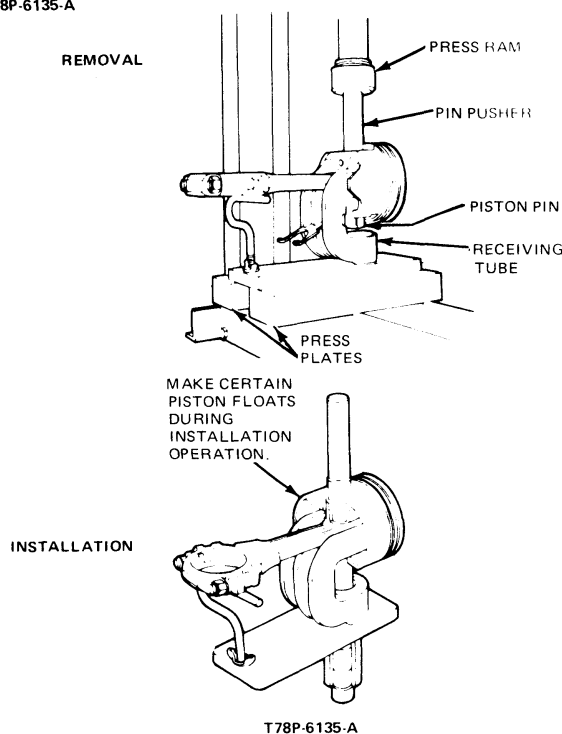

FIG. 53 Removing or Installing Piston Pin
3. Using an Arbor press and the tool shown in Fig. 53, press the piston pin from the piston and connecting rod. Remove the piston rings.
Using an Arbor Press, press the piston pin through the piston and connecting rod until the pin is centered in the piston (Fig. 53).